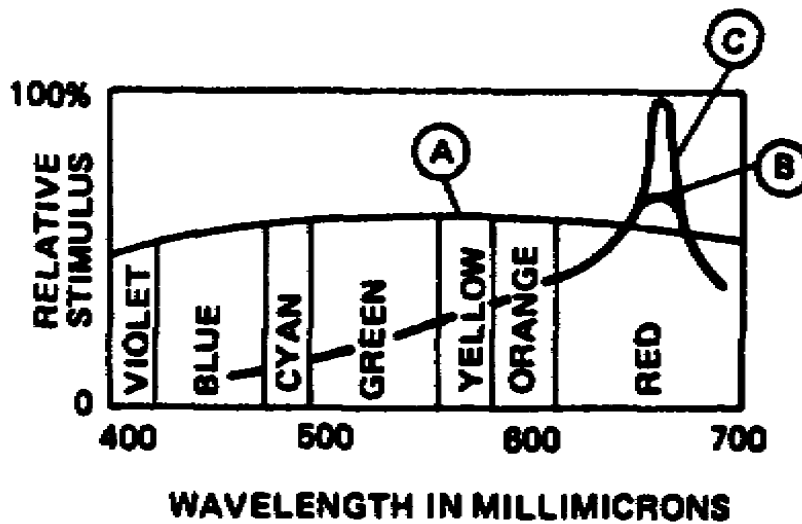
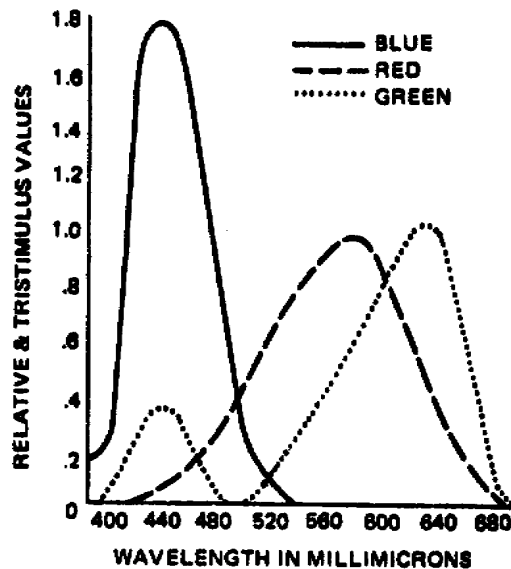

Figure 2-4. Spectral radiation curve of white, pink, and red objects
Figure 2-5. Fundamental color mixture curves
a. Figure 2-4 shows a spectral radiation energy curve spread out more or less uniformly over the visible spectrum. When such a condition exists, white is seen as a pale or pastel shade.
2. The most commonly used chromaticity diagram is the one shown in figure 2-5 which is based on the color mixture curves shown in figure 2-4. These color mixture curves show the amount of the three primary colors, blue, red, and green, needed to match unit energy at each wavelength in the spectrum.